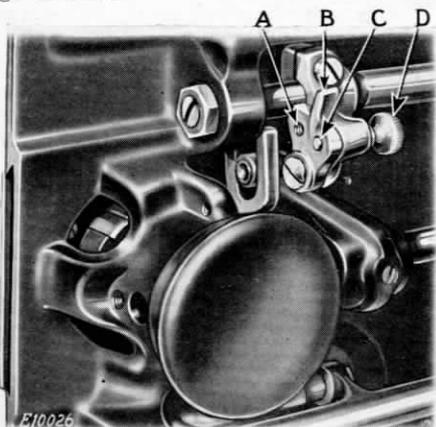

FIG. 36. ADJUSTMENT FOR DARNING OR EMBROIDERING
Turn the machine back on its hinges. Unscrew the thumb screw (D, Fig. 36), which is located in the lower hole (C) in the feed lifting crank (B). Move the feed lifting crank (B) down so that the thumb screw (D) will enter the upper hole (A). Having inserted the screw in this hole, tighten it firmly. The feed is thus rendered inoperative and will not interfere with the free movement of the work. Bring the machine forward into place.
When you have finished the darning or embroidery, raise the presser bar lifter and replace the presser foot. Turn the machine back on its hinges and replace and firmly tighten the thumb screw (D) in the lower hole (C) in the feed lifting crank (B) as shown in Fig. 36. Bring the machine forward into place and it is ready for regular stitching.